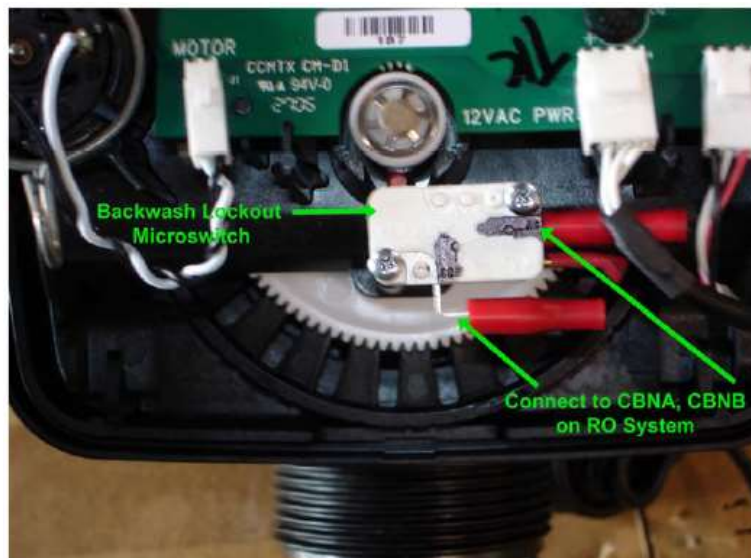

Figure 7. Carbon Filter Control Valve
- **Micro Switch Backwash Lockout** – Connect both Micro Switches on the Carbon Filters to CNA and CNB on the terminal strip as shown in Figure 7.